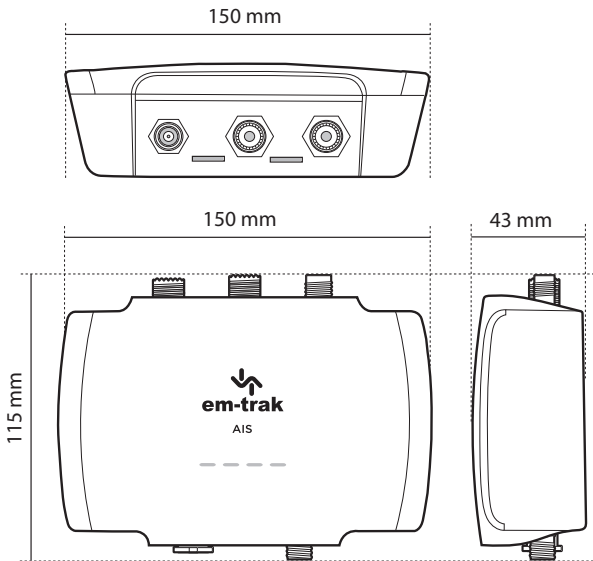

Figure 10 AIS transceiver dimensions
- There should be adequate space around the transceiver for routing of cables. See Figure 10 for details of the transceiver dimensions.